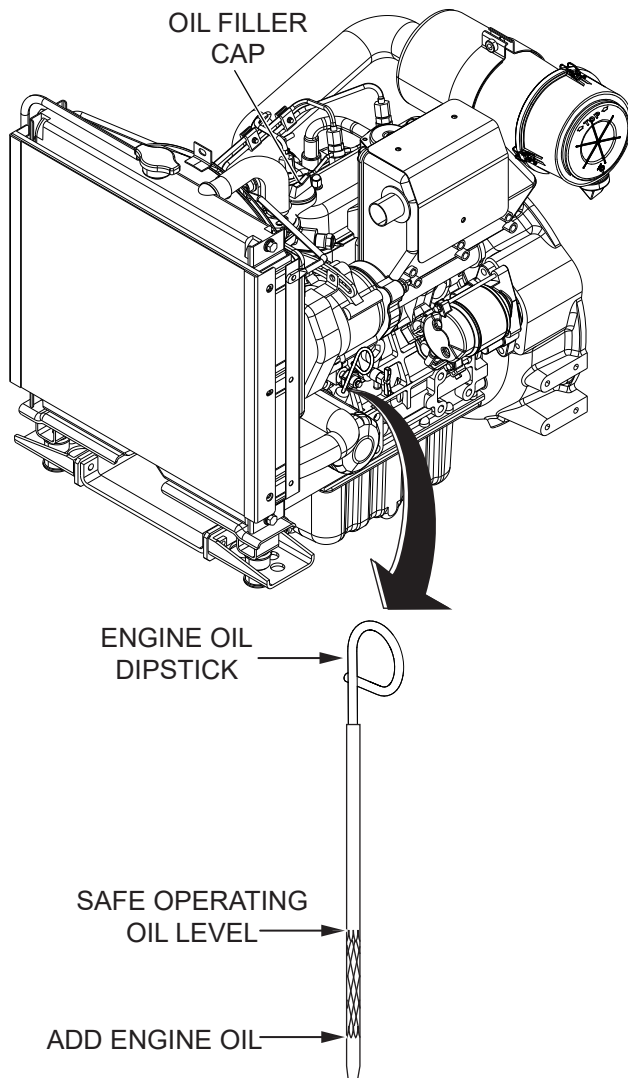

Figure 7. Engine Oil Inspection
2. Remove the **engine oil dipstick** (Figure 7) from its holder and wipe it clean.
4. Check the oil level (Figure 7) on the dipstick. If the oil level is low, remove the **oil filler cap** and fill to a safe operating level (max) as indicated by the dipstick. Fill with the recommended oil type (Table 4). Maximum oil capacity is 5.4 quarts (5.1 liters). **DO NOT** overfill.